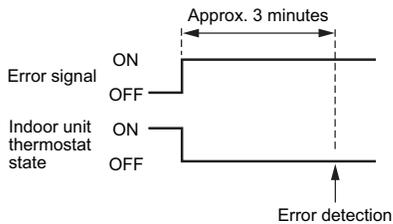

Fig. 5-7
③ Indoor unit operation when error signal input (Fig. 5-7)